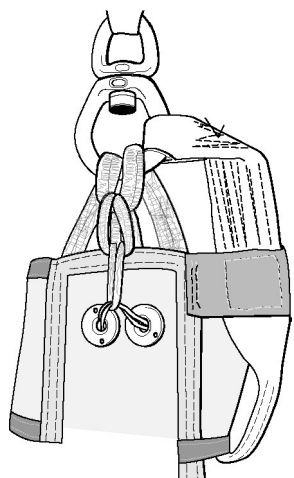

Figure 21. Routing of Double Locking Loop
e. Route free end of double locking loop through the release's small loop and down through MOR grommet. Secure loop by inserting manual drogue release pin through eye of loop. Remove all packing aids from the double locking loop on drogue riser (Figure 21).